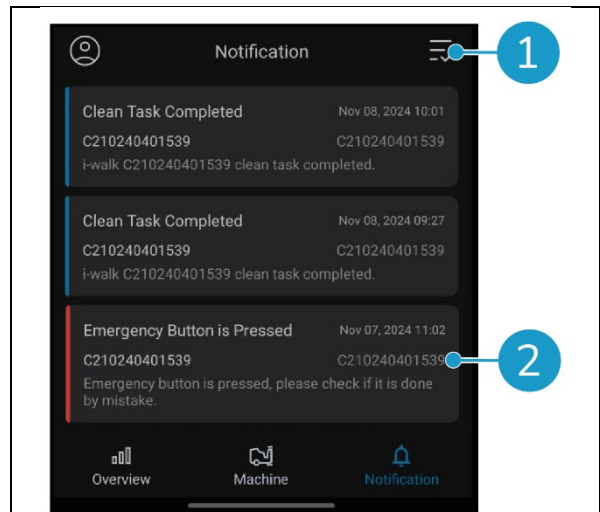

Figure 37
- Tap the button in the top right (Figure 37, pos. 1) to mark all current reports as read and remove them from the view.
- Tap a specific notification (Figure 37, pos. 2) to view it in more detail.